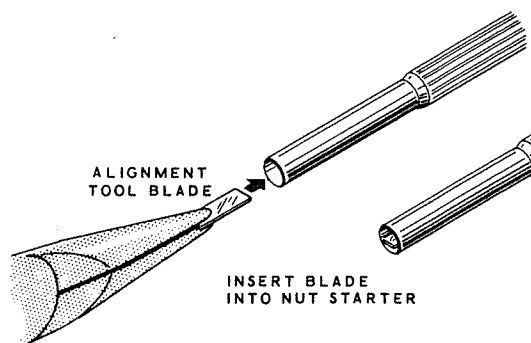

Figure 1
- (✓) Locate the alignment tool blade supplied with this kit. Refer to Figure 1 and use a pair of long-nose pliers. Insert the blade into the smaller hole of the nut starter until the blade end is flush with the end of the nut starter. This now can be used as a trimmer alignment tool.